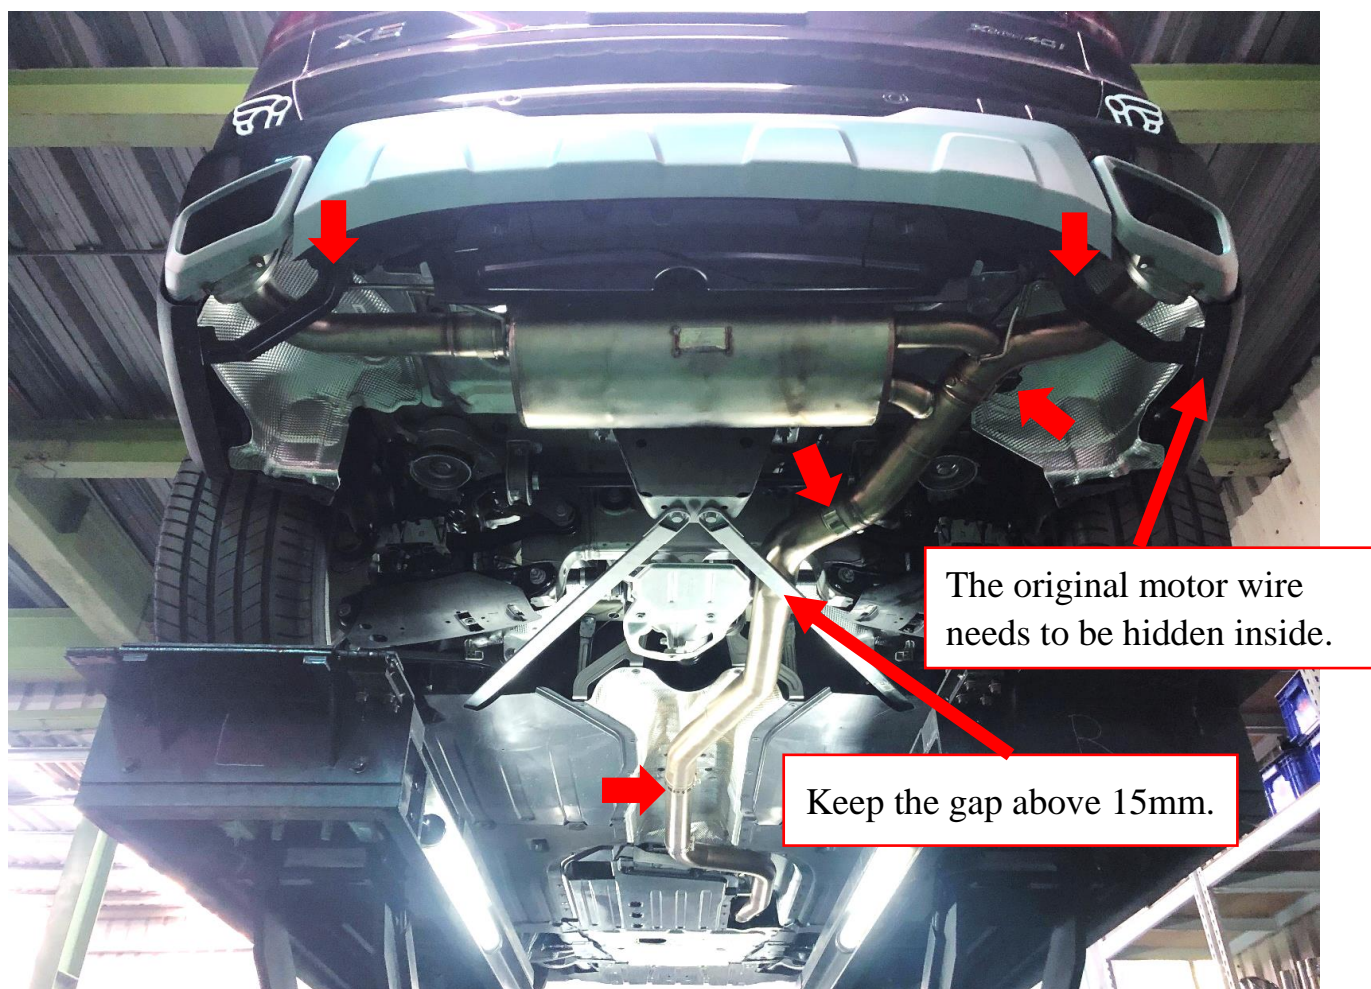

Fig. 7-1
3. Lock the OEM motor and springs together to iPE valve system. (Fig7-1)